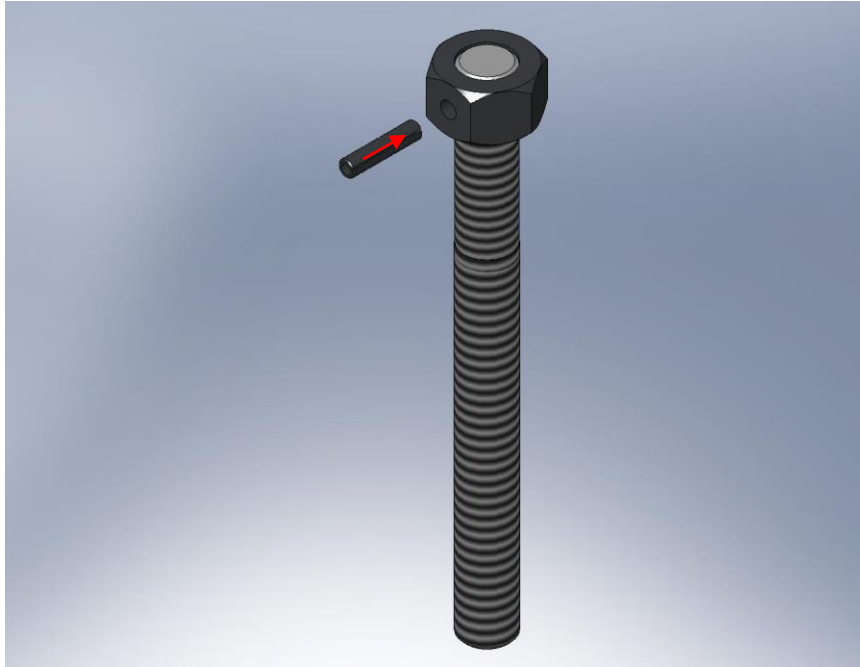

Figure 4.54. After drilling a hole through the ACME Screw and nut, press in the spring pin. The pin transfers torque from the nut to the Screw.
- Set aside all (6) **GS-13 Assemblies**, for later installation. (**GS-13 Cable Restraints** (D071183) will be added to **Horizontal GS-13 Assemblies** immediately prior to installation in **Stage 1**.)
4.26 Prep Work – Prepare (3) Spring Pull-Down Tooling Assemblies (D071500)
- Thread ACME hex nut (Dependable ACME, 3/4"-10 Hex 303) onto one end of 3/4"-10x8.0" **ACME Screw** (D071309), until its top is flush with the end of the **Screw**. Drill a 1/4" hole through the side of the nut/**Screw** combination (refer to drawing D071499 for instructions on making the hole). Press 1/4" spring pin into this hole, as shown in Figure 4.54.